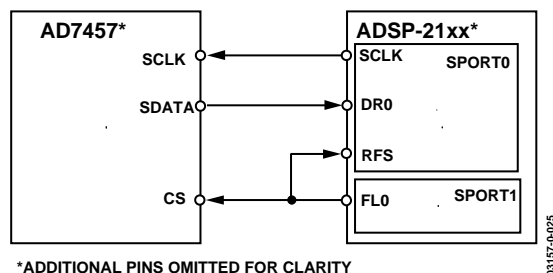

Figure 25. AD7457 to ADSP-218x
The ADSP-218x family of DSPs can be interfaced directly to the AD7457 without any glue logic. The serial clock for the ADC is provided by the DSP. SDATA from the ADC is connected to the data receive (DR) input of the serial port and  $\overline{CS}$  can be controlled by a flag (FL0). The connection diagram is shown in Figure 25.